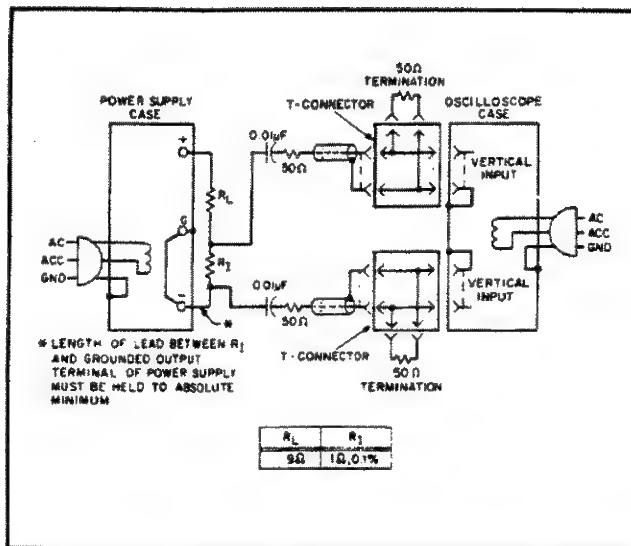

Figure 5-12. Constant Current Noise Spike Test Setup
- Connect test setup shown in Figure 5-12.